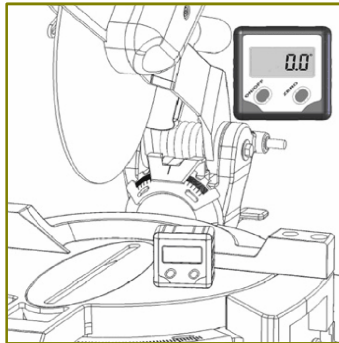

Figure 1
- 2 Turn the unit on by pressing the 'ON' button, and then press the 'ZERO' button to reset the display to 0.0°. This sets the reference surface to zero (see figure 1)